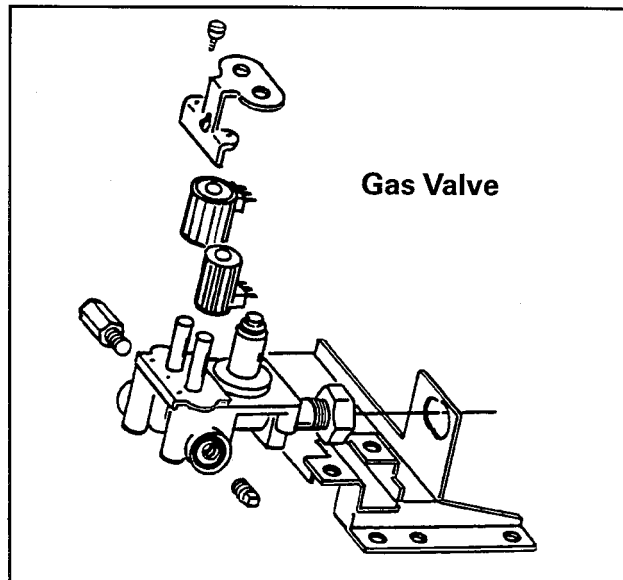

Figure 2-1
3. Install a 5/16" tapered fitting at the gas valve pressure tap. Use thread seal tape or compound on fitting. (*See Figure 2-1*)